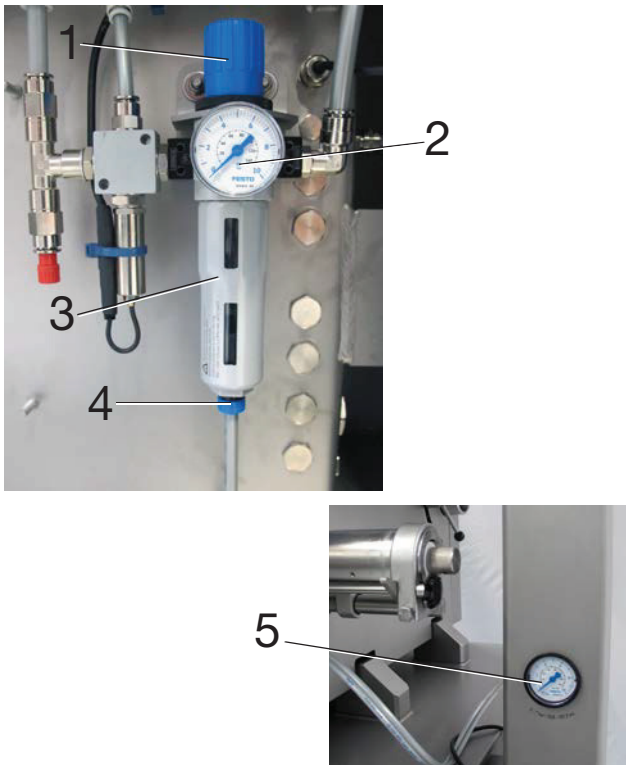

Fig. 3-18
- Lift the air pressure adjusting screw on the air filter (1, Fig. 3-18) and rotate until operating pressure of 5 to 7 bar shows on the pressure gauge.